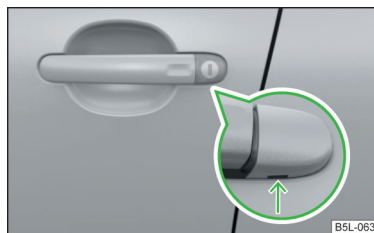

Fig. 186
- › Push the vehicle key into the recess on the bottom side of the cover in the region of the arrow and fold it upwards » Fig. 186.